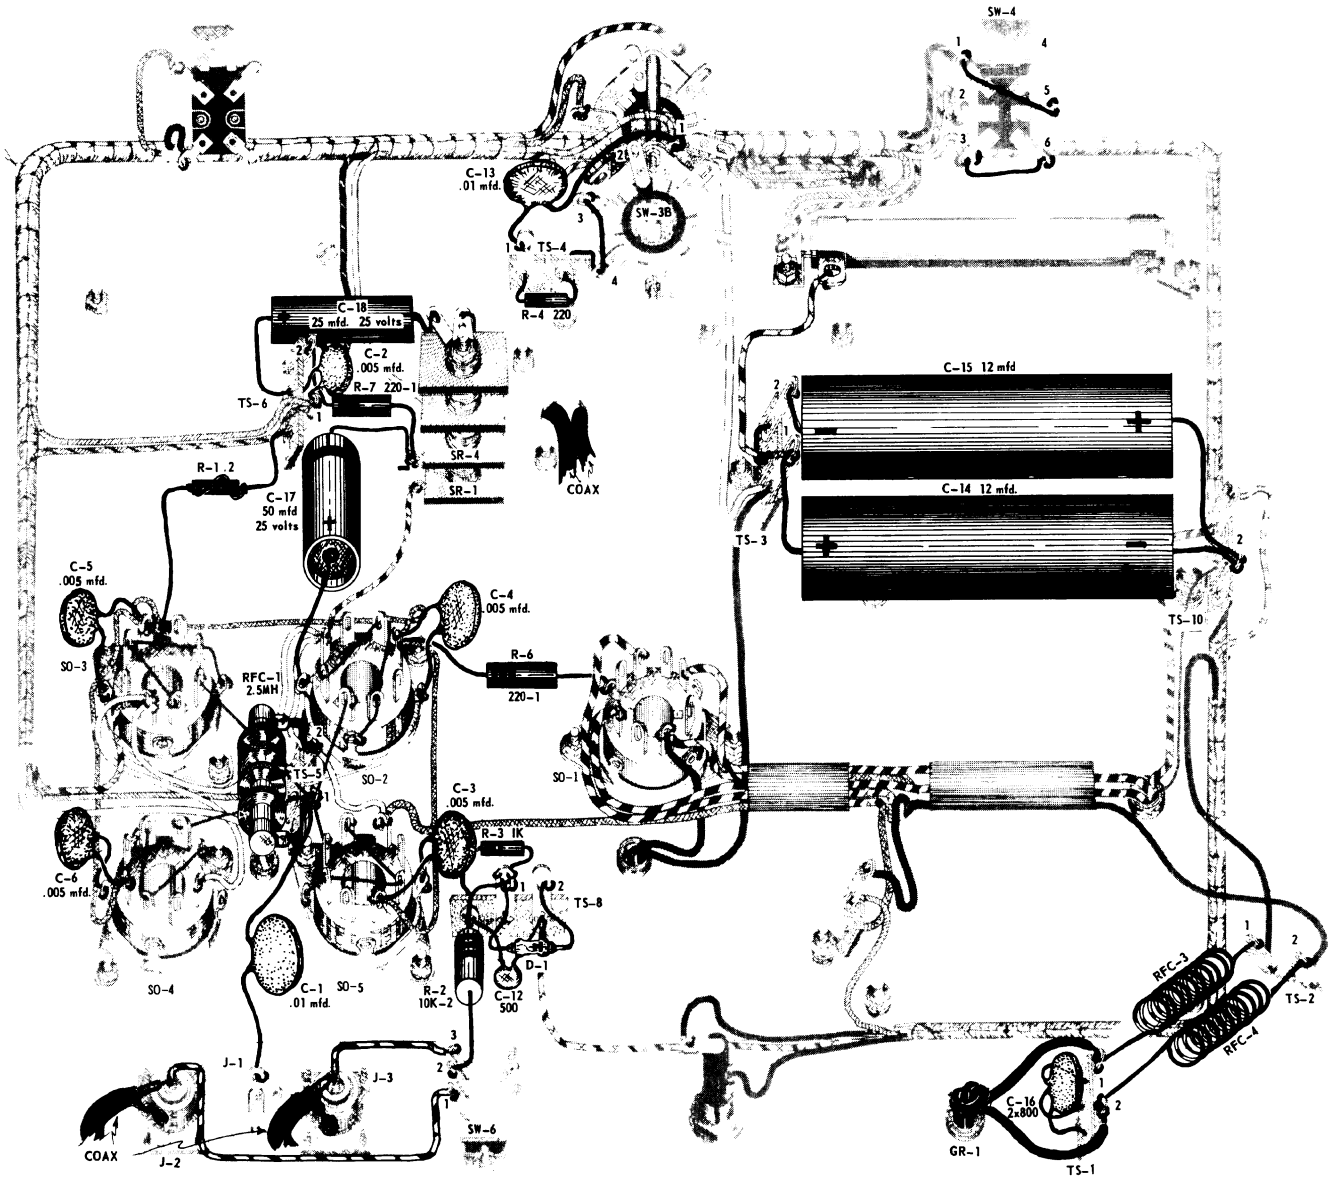
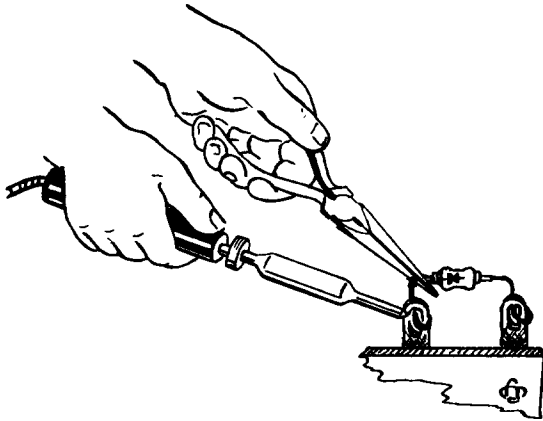

Figure 17. Wiring Steps 68 Through 100.
Figure 18. Proper Method of Soldering Diode Leads.
NOTE: Refer to Figure 17 for the following steps.
75. Connect the other end of RFC-3 to lug 1 of tie strip TS-1. (NS)
76. Connect one end of RFC-4 to lug 2 of tie strip TS-2. (S)
77. Connect the other end of RFC-4 to lug 2 of tie strip TS-1. (NS)
80. Connect the .005 mfd., disc, ceramic capacitor C-3 from pin 5 of socket SO-5 to the socket grounding lug below pin 4. (S)
82. Connect the .005 mfd., disc, ceramic capacitor C-5 from pin 5 of socket SO-3 at the socket grounding lug below pin 4. (S)
83. Connect the .005 mfd., disc, ceramic capacitor C-6 from pin 5 of socket SO-4 to the socket grounding lug below pin 6. (S)
85. Connect the IN48 diode rectifier between lugs 1 and 2 of TS-8. Make certain the diode is connected with the symbols as shown in Figure 17. (NS)
86. Connect the 1000 ohm, 1/2 watt resistor R-3 (Brown-Black-Red) from lug 1 of TS-8 to the grounding lug of TS-8. (NS)
87. Connect the 500 mmfd., disc. ceramic capacitor C-12 from lug 2 of TS-8 to the grounding lug of TS-8. (S)
88. Solder all connections on lugs 1 and 2 of TS-8. **IMPORTANT NOTE:** When doing so, hold the pigtail leads of diode D-1 with long nose pliers so the diode will not become damaged by excessive heat. Refer to Figure 18.
line cord through grommet GR-1. Tie a knot in the cord (on the inside of the chassis) 2" from the tinned ends. Refer to Figure 17.